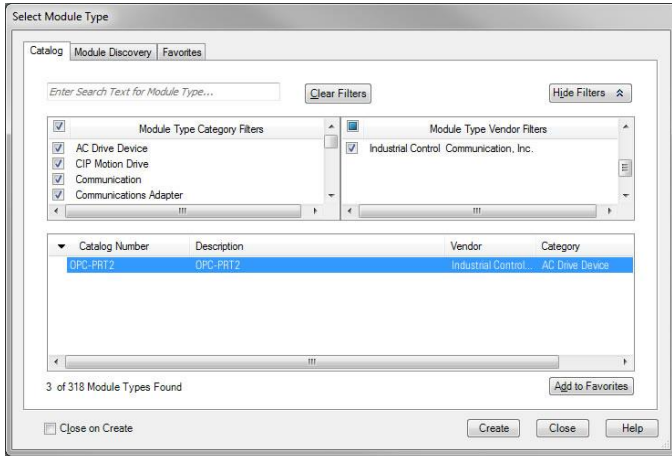

Figure 29: Adding a New Interface Card Module
- 11) Find the interface card in the "Select Module" dialog box as shown in Figure 29.